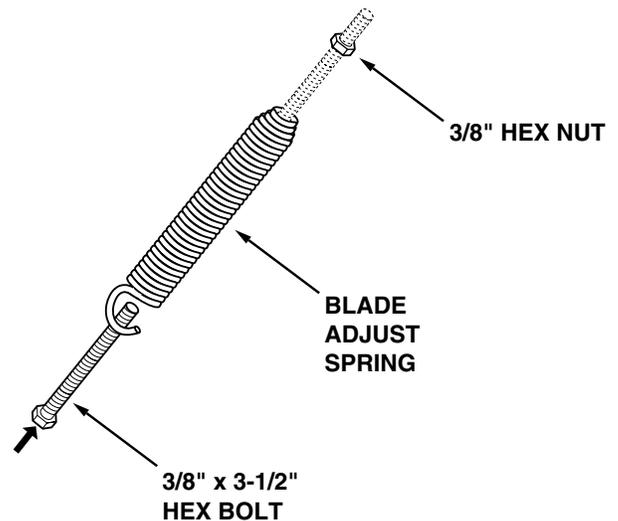

Figure 6
15. Insert the 3/8" x 3-1/2" hex bolt through the angle lock spring. Assemble a 3/8" hex nut about 1" onto the end of the bolt. See figure 6.